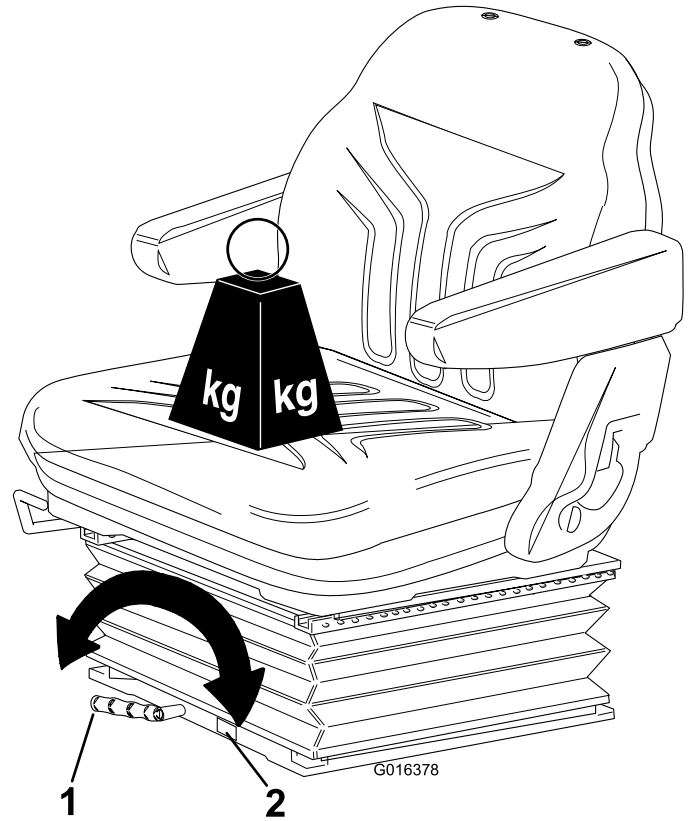

Figure 8
- **Operator weight adjustment:** Rotate the handle clockwise to increase suspension stiffness and counter-clockwise to decrease. The dial indicates when the optimum suspension adjustment has been set according to operator weight (Figure 8).